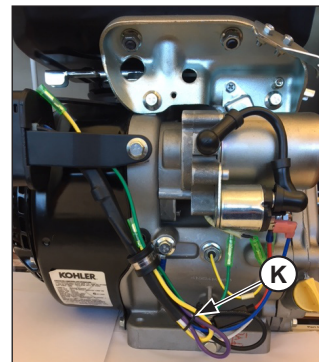

Figure 9. Secure All Wires with Wire Tie.
13. Secure wires with wire tie (K). See Figure 9.